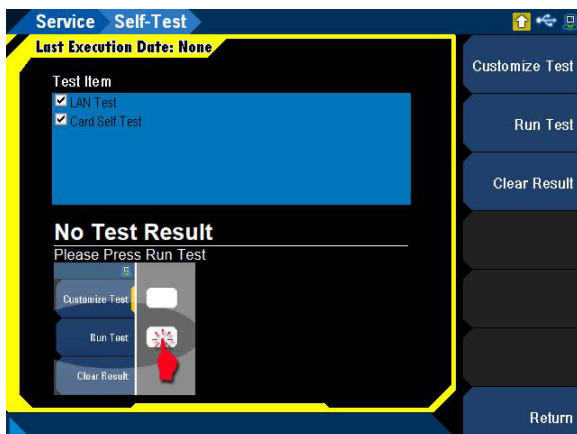

Figure 1-8 System > Service > Self-Test menu page
- 3 From the Service menu page, press the **Self-Test** softkey. The Self-Test menu page is displayed as shown in **Figure 1-8**.